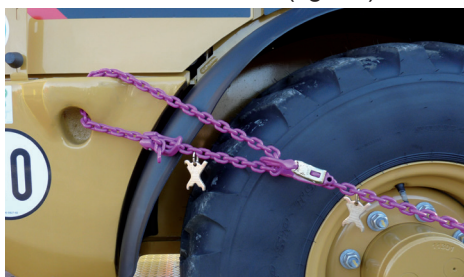

Fig. 10: free not shortened chain strand
- Mount the multi-shortening claw only in the free not shortened chain strand (fig. 10).